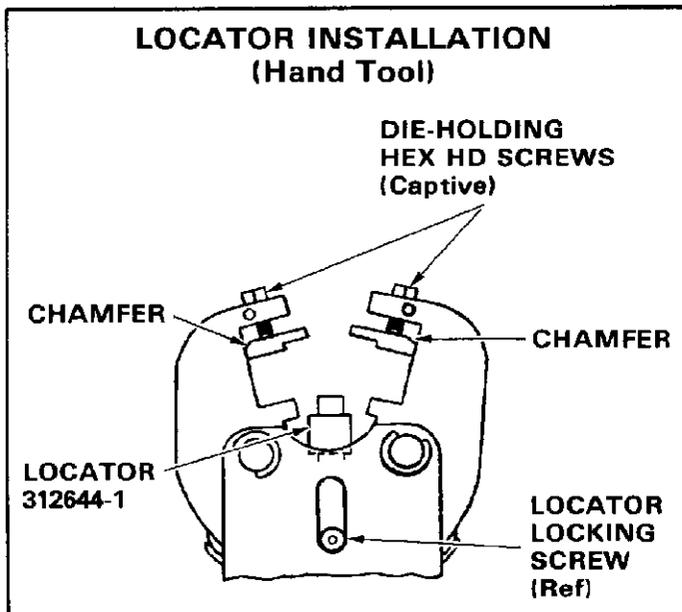

Fig. 3
1. Loosen locator locking screw and insert locator in cavity of tool head. See Figure 3. After ensuring that locator is bottomed, tighten screw.